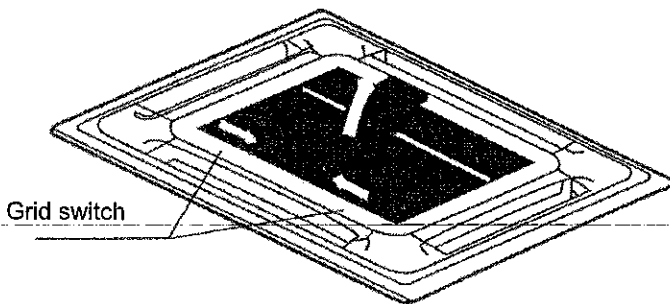

Figure 10
- Simultaneously slide the 2 grid switches to the middle position, and then raise it up (see Figure 10).